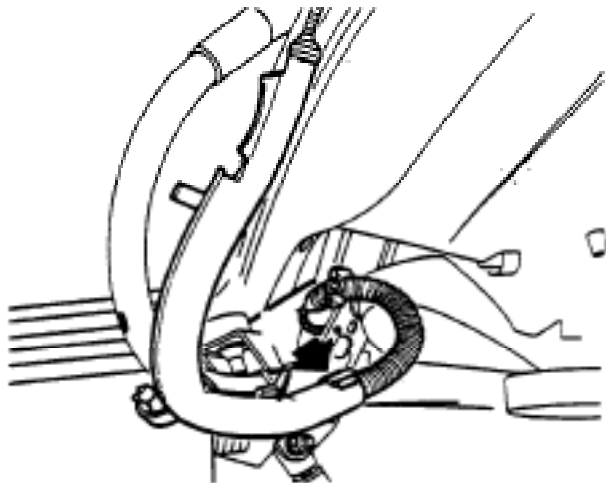

Figure 10. Fitting Corrugated Cable Duct
10. Fit the corrugated cable duct into the cable conduit 43 53 538 (see Figure 10).